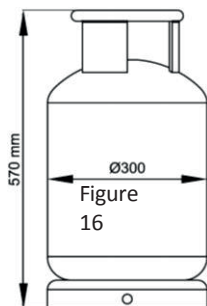

Figure 16
- It should be in such dimensions as those dimensions shown in the Figure 16.